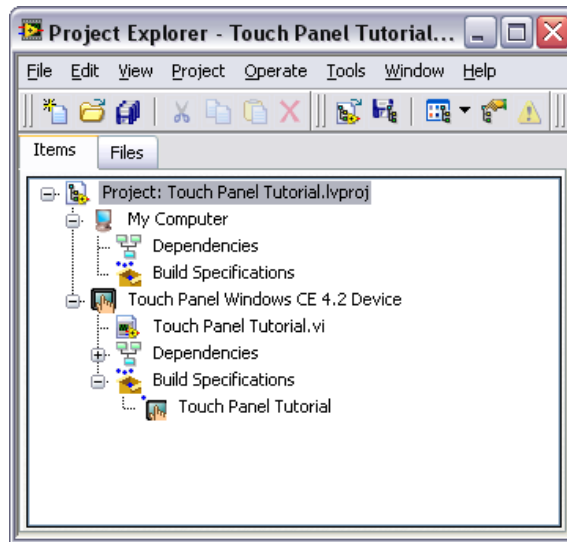

Figure 6. Project Explorer Window
6. Click the **OK** button. The build specification you just created appears in the **Project Explorer** window under the Touch Panel target as shown in Figure 6.